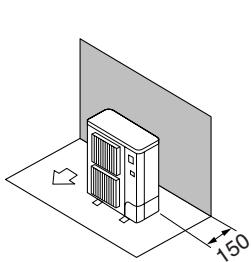

Fig. 2-2
① Obstacles at rear only (Fig. 2-2)